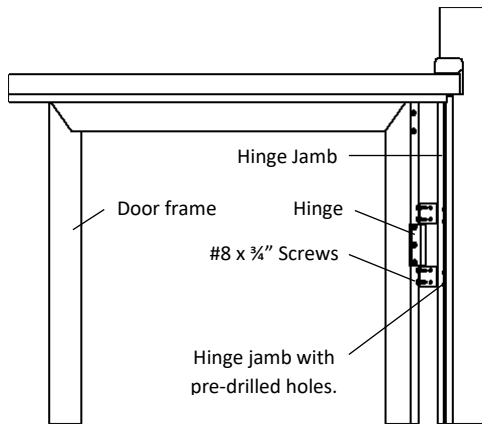

Fig. 5
- Attach bottom hinge to jamb through predrilled holes. Attach top hinge (already fastened to door) to post through jamb with #8 x  $\frac{3}{4}$ ” self-tapping screws in each hole. (Fig. 5) Jamb is predrilled to assist positioning door to jamb and post. Fasten bottom hinge to door. Repeat above procedure for center hinge.
- Attach bottom hinge to jamb through predrilled holes. Attach top hinge (already fastened to door) to post through jamb with #8 x 3/4" self-tapping screws in each hole. (Fig. 5) Jamb is predrilled to assist positioning door to jamb and post. Fasten bottom hinge to door. Repeat above procedure for center hinge.